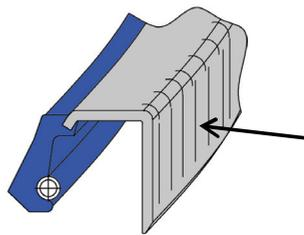

Fig. 1
2. Die scratches from case operation	Check for OD coating or sealant in scratch (Fig. 1)